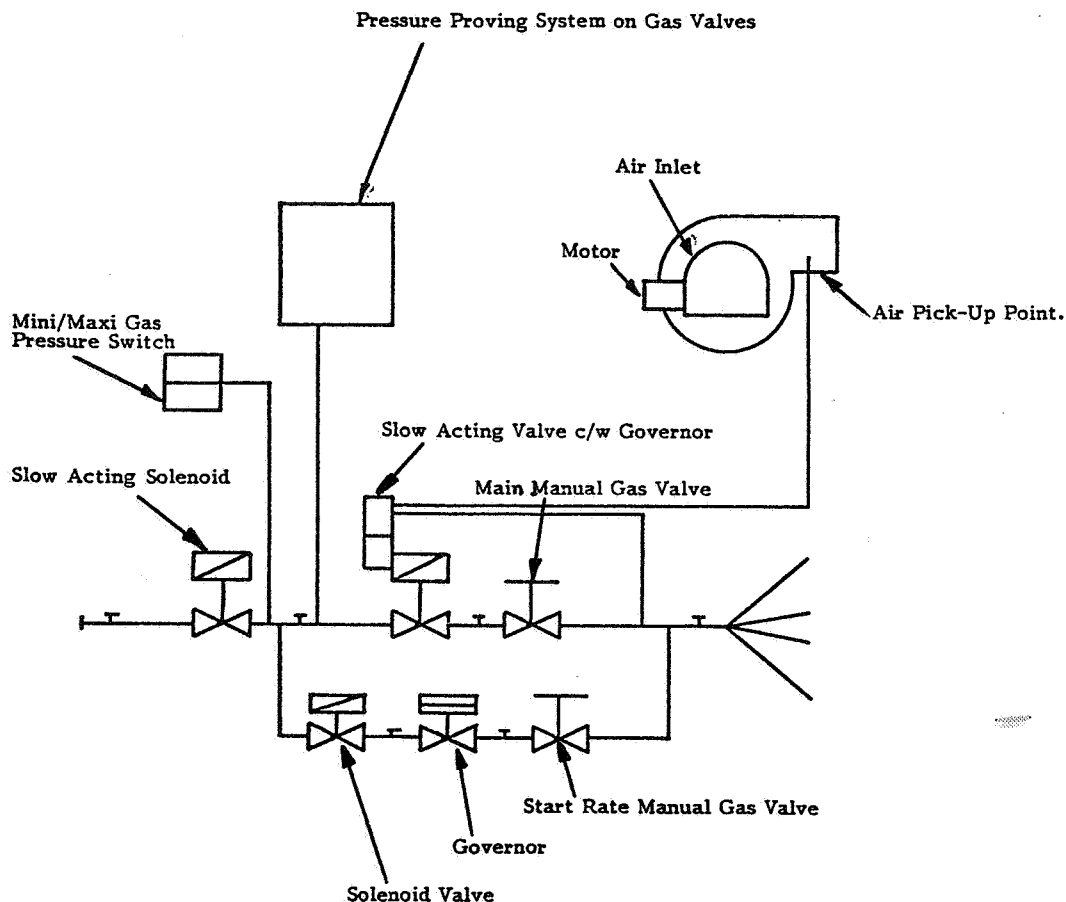

Fig. 6. Burner with Pressure Proving System.
5.2.1 PRESSURE PROVING SYSTEM FIG. 6.